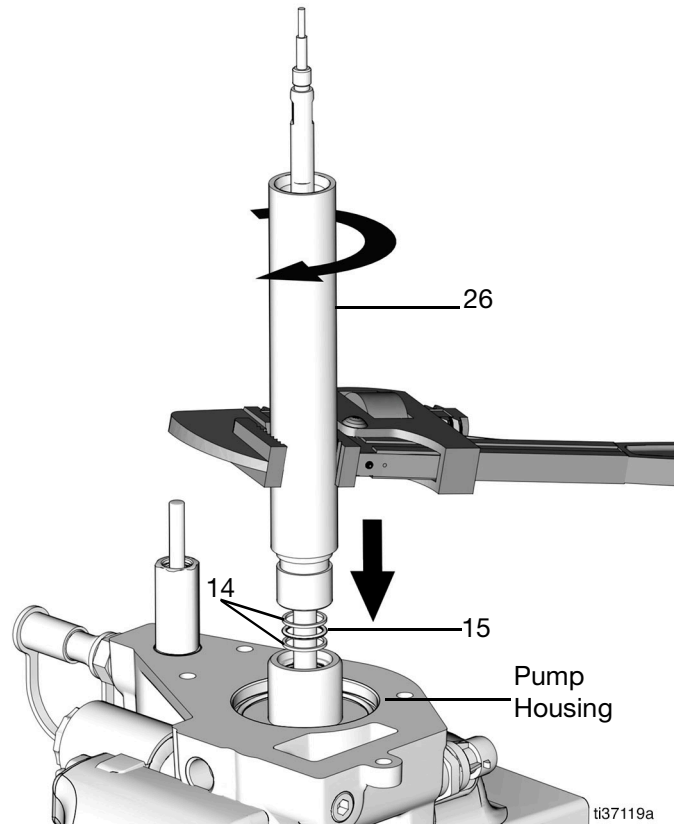

FIG. 55
8. Replace the two back-up rings (14) and o-ring (15) with new back-up rings and o-ring and grease lightly (FIG. 55).
9. Place the extension tube (26) over the pump rod and tighten to pump housing (torque 32 ft-lb/43.4 N•m) (FIG. 55). Apply medium strength thread locking compound.